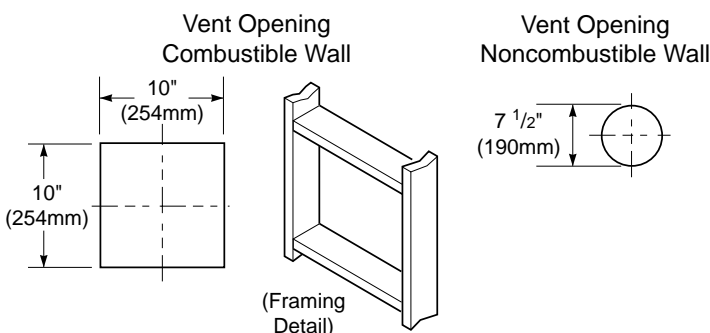
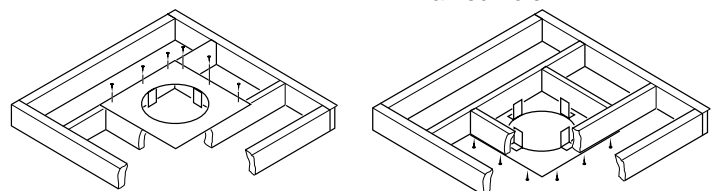

Figure 25 - Vent Opening Requirements
Figure 33 - Installing Firestop
For two-story applications, firestops are required at each floor level (see Figure 33, page 16). If an offset is needed in the attic, additional pipe and elbows will be required.
- Attach vent pipe assembly to the burner system. Set stove in front of its permanent location to insure minimum clearances. Mark the wall for a 10" square hole (for noncombustible material such as masonry block or concrete, a 7 1/2" diameter hole is acceptable). See Figure 25. The center of the hole should line up with the center-line of the horizontal vent pipe. Cut a 10"x10" (254mm x 254mm) square hole through combustible exterior wall (7 1/2" [190mm] diameter hole if noncombustible). Frame as necessary (see Figure 25).
1. Cut a 10" square hole in the ceiling using the locating hole as a center point. The opening should be framed to 10"x10" (254mm x 254mm) inside dimensions, as shown in Figure 25 on page 14 using framing lumber the same size as the ceiling joists. If the area above the ceiling is an insulated ceiling or a room, nail firestop from the top side. This prevents loose insulation from falling into the required clearance space. Otherwise, install firestop below the framed hole. The firestop should be installed with no less than three nails per side (see Figure 33).
3. Cut a hole in the roof using the locating hole as a center point. (Cover any exposed open vent pipes before cutting hole in roof.) The 10"x10" hole must be measured on the horizontal; actual length may be larger depending on the pitch of the roof. There must be a 1" clearance from the vent pipe to combustible materials. Frame the opening as shown in Figure 25 on page 14.